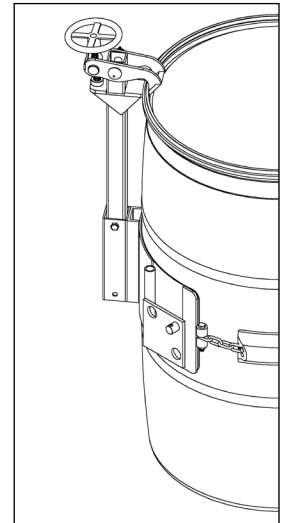

Figure 2.2
- The **Top Rim Clamp** (Kit # 4560SS-P) grips the upper rim of your drum to prevent it from slipping through the drum holder (see figure 2.2). To handle a 55-gallon (210 liter) plastic drum with top rim, you **must** install either the Bracket Assembly or the Top Rim Clamp. You can use the Top Rim Clamp with a 55-gallon (210 liter) plastic, steel or fiber drum with suitable top rim.